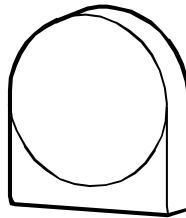

Fig. 1
1. Outside Sensor - Shown in Fig.1.